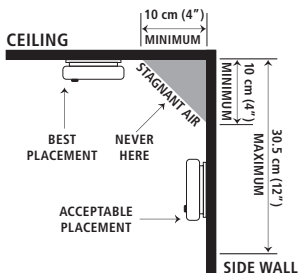

FIGURE 2A
- When mounting an alarm on the ceiling, locate it at a minimum of 10 cm (4") from the side wall (Figure 2A).
- When mounting the alarm on the wall, use an inside wall with the top edge of the alarm at a minimum of 10 cm (4") and a maximum of 30.5 cm (12") below the ceiling (Figure 2A).
Modern mobile homes have been designed to be energy efficient. Install smoke alarms as recommended in Figure 2A.
In older mobile homes that are not well insulated compared to present standards, extreme heat or cold can be transferred from the outside to the inside through poorly insulated walls and roof. This may create a thermal barrier that can prevent the smoke from reaching an alarm mounted on the ceiling. In such units, install the alarm on an inside wall with the top edge of the alarm at a minimum of 10 cm (4") and a maximum of 30.5 cm (12") below the ceiling (Figure 2A).